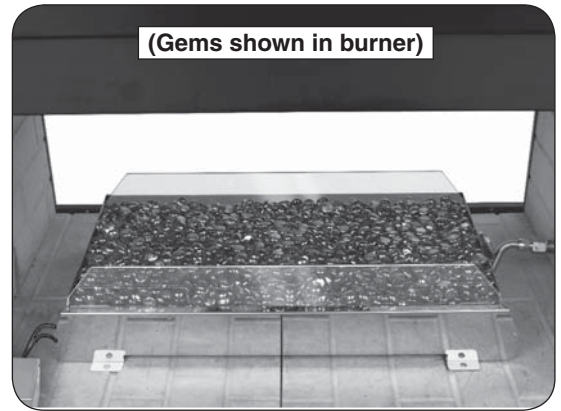

Fig. 17-1 Glass/gems placement
1. Pour the glass/gems directly on top of the burner so that the burner pan is covered completely and evenly (see Fig. 17-1). **DO NOT** overfill.